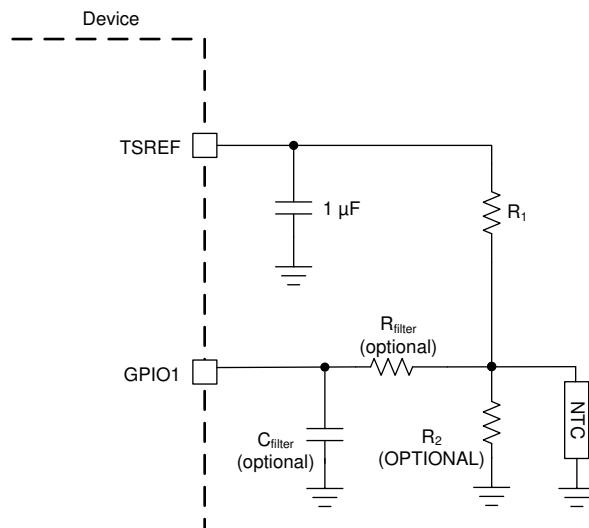

Figure 9-5. Thermistor Connection
Figure 9-5 shows the thermistor circuit when GPIO is enabled for thermistor measurements. MCU ensures TSREF is enabled by setting *CONTROL2[TSREF_EN]* = 1 and settled before taking the measurement value.
- $R1$ is the pull-up resistor as shown in Figure 9-5 with the assumption the $R2$ is not used